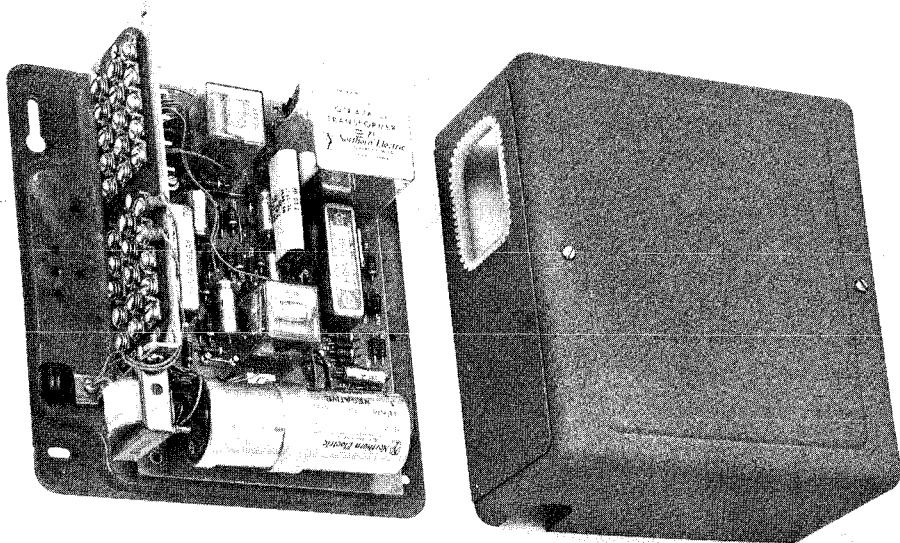

Fig. 1 — QCS1A Voice Station Coupler
2.04 The voice station coupler QCS1A (Fig. 1) is a wall mounted unit measuring 6¾ inches wide, 6⅝ inches high and 3⅜ inches deep. The coupler weighs approximately 3 pounds and is enclosed in a metal apparatus box. Two key hole slots at the top and two screw holes at the bottom are provided on the base for mounting the unit on a wall or other vertical surface.